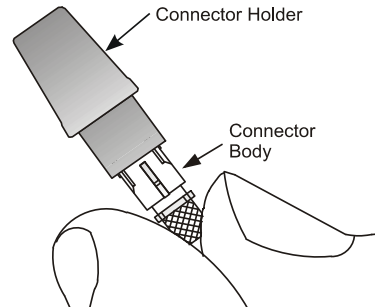

**Figure 20. Apply Primer to Buffer**
1. **Apply the Primer to Fiber Buffer**—Using the syringe with the primer in it, apply primer to 0.25 inch (6 mm) of the buffer (Figure 20). Avoid getting the primer on the fiber. If several connectors are being terminated, it is recommended that all of the buffers be primed before moving on to the next step.